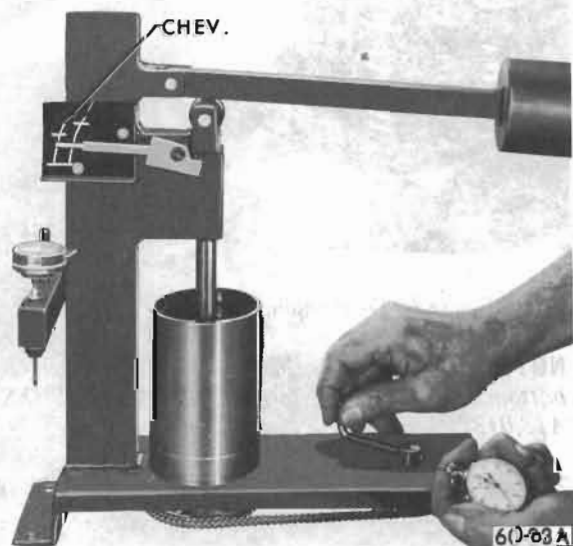

Figure 60-16--Checking Lifter Leakdown Rate
6. Raise weight arm to allow lifter plunger to come up to its retainer, then lower arm to rest on the ram roller. As pointer starts moving upward, start rotating fluid cup by turning handle one revolution every two seconds. See Figure 60-16.
NOTE: The newer Model J-5790 leakdown tester will have a different scale than the one shown in Figure 60-16. In this case, time the pointer travel from the "Start" position to the .094 mark on the scale. The leakdown rate must still be between 10 and 45 seconds.